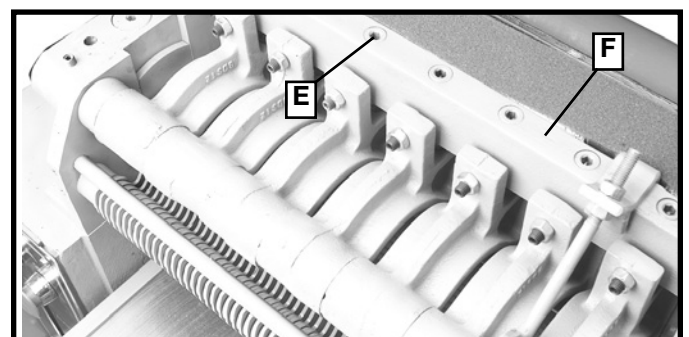

Fig. 32
7. Spring tension on the chipbreaker segments is properly set when the head of corresponding screw (E) Fig. 32, is two complete turns below surface of casting (F).